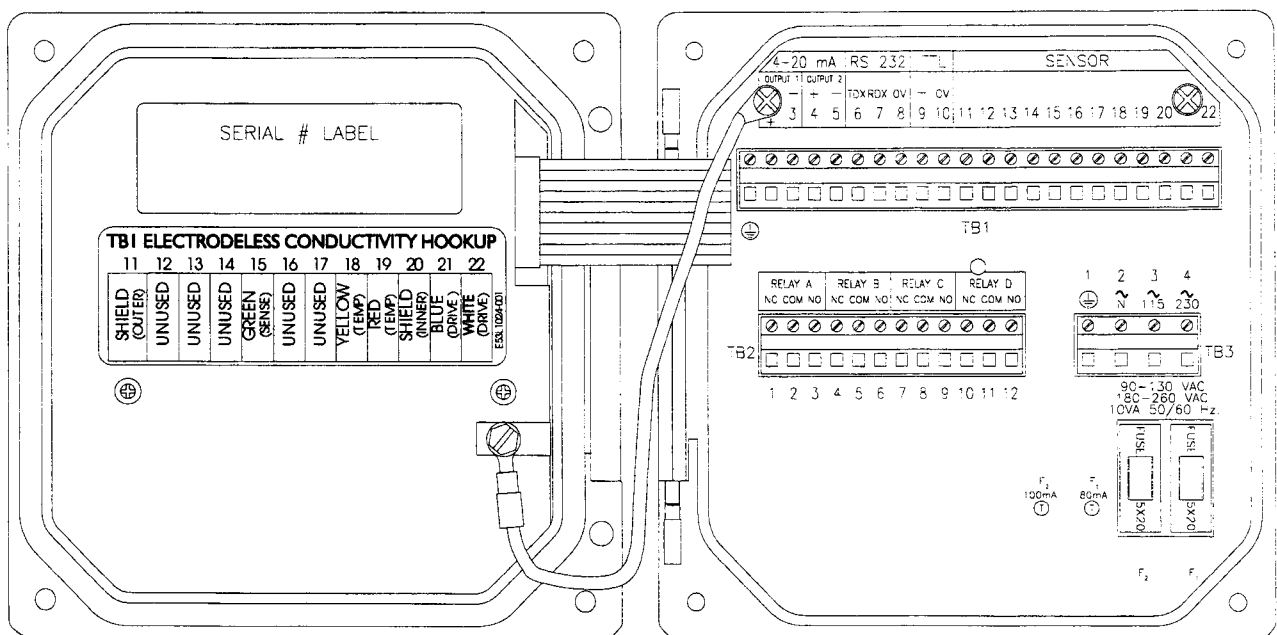

FIGURE 2-4 Analyzer Terminal Block Designations for Analyzers with No Letter Prefix Serial Numbers
- The "ground symbol" Terminal 1 on TB1 (Figure 2-4) for analyzers with no letter prefix serial numbers.